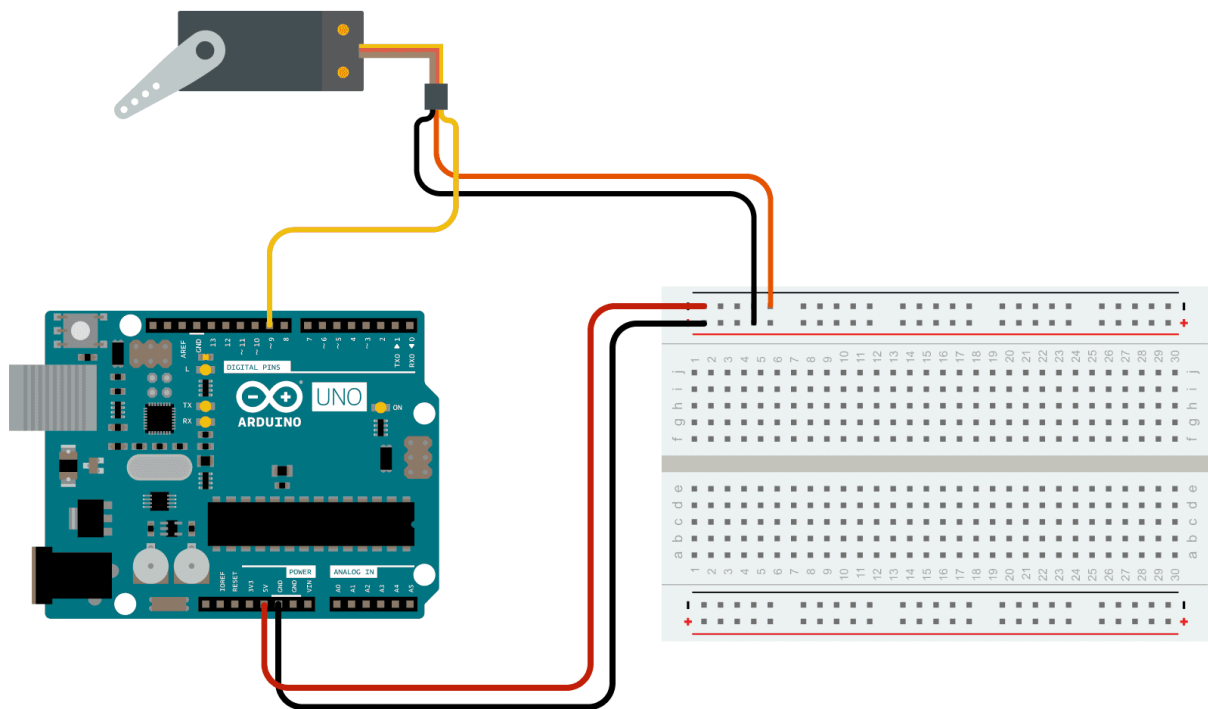

Figure 1 Circuit diagram for servo back and forth range of motion
- For this, connect the servo motor to +5V, GND and pin 9 as shown in Figure 1.